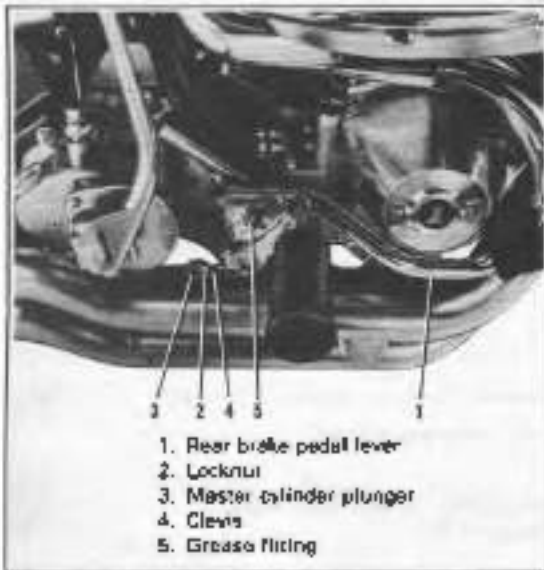

Figure 2-63. Adjusting Rear Brake Pedal - FX (Late 1972 and Later)
**ADJUSTING REAR BRAKE PEDAL - FX - LATE 1972 AND LATER (Figure 2-63)**